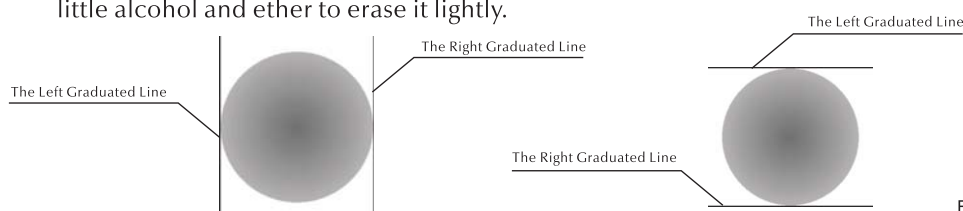

Fig 9
6.3.3 Rotate the drum wheel to make the inner side of the left graduated line touch the **left edge** of the indentation and then make the **inner side of the right** graduated line touch the **right edge of the indentation**, and press down the button on the objective. The measurement of  $D_1$  is completed and the displaying screen shows the data of  $D_1$  (see Fig.9)